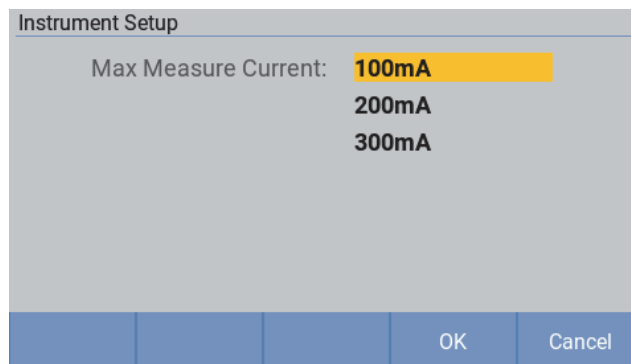

Figure 24. Setting the max measurement current
1. In the **Instrument Setup** screen, use the up and down arrow (⏴ ⏵) buttons on the front panel to move the cursor to the **Max Measure Current** option (the option is highlighted in yellow). Press **F4** (Edit) button on the front panel to enter the maximum current setting screen. As shown in Figure 24.